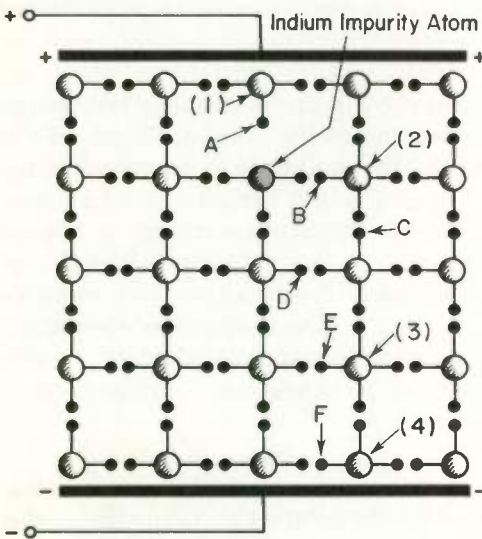

Fig. 10 Semiconductor crystal with acceptor impurities.
ACCEPTORS FORM P-TYPE MATERIAL . . . Atoms of gallium and indium have three electrons in their valence ring. The result of adding an indium atom to a semiconductor crystal is shown in Fig. 10. The three indium valence electrons form covalent bonds to three adjoining semiconductor atoms. This leaves electron A without an electron with which to bond. As a result, electron A can readily become a free electron. When a voltage is applied across the crystal as shown, electron A is pulled away from atom (1) and drifts out of the crystal onto the positive plate. This leaves a hole at A with a (99) _____ charge. This hole drifts through the crystal to the negative plate, to which it is attracted. Since the hole is a charge carrier, this constitutes a current flow.